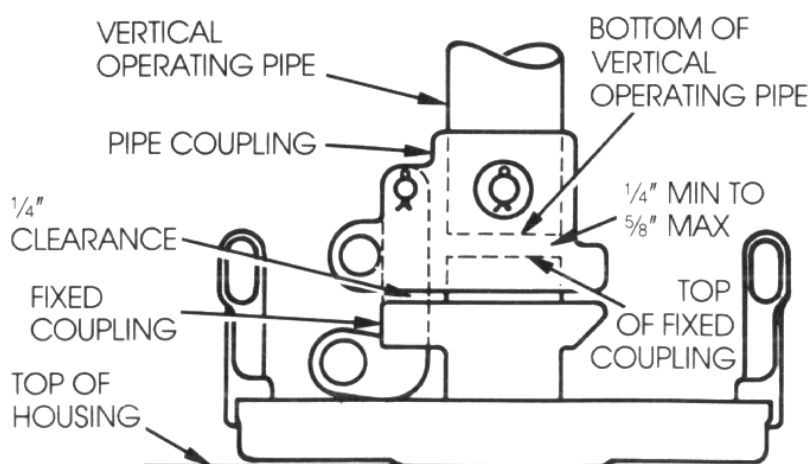

Fig. 3. Pipe coupling latched to fixed coupling.
3. Mount the motor operator to the structure. NOTE—Make sure bottom of vertical operating pipe is from 1/4" minimum to 5/8" maximum above top of fixed coupling, Fig. 3.
6. Mate the pipe coupling to the fixed coupling. Put the uncoupling bar of the pipe coupling in the notch of the fixed coupling. Place a 1/4" spacer between the pipe coupling and the fixed coupling to allow sufficient clearance before drilling holes in the vertical operating pipe. See Fig. 3.